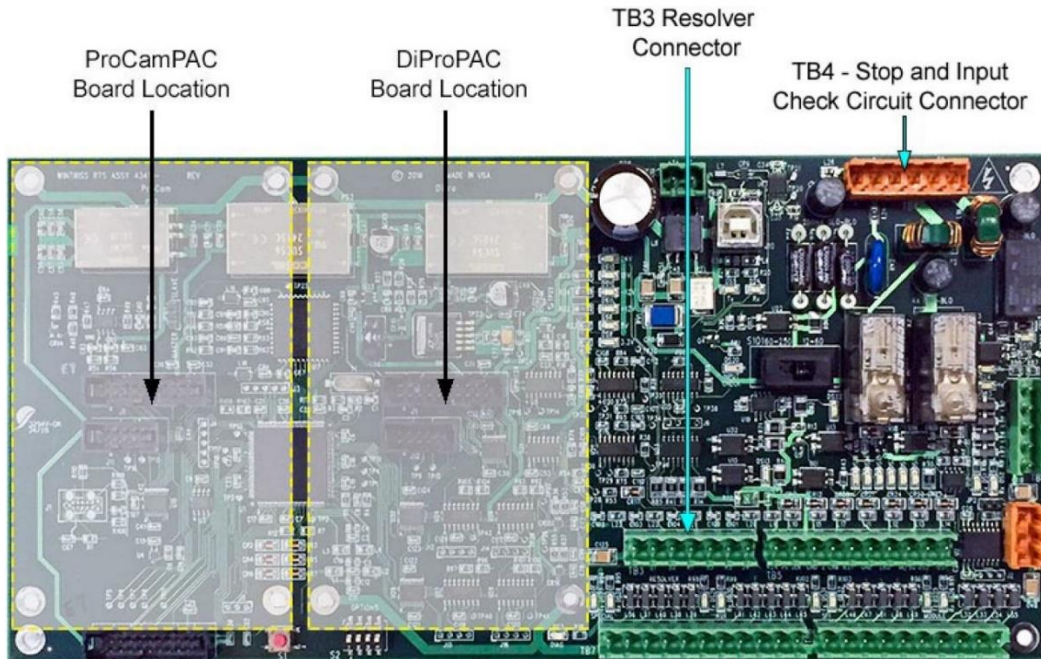

Figure 2-11. SmartPAC PRO Main (RTS) Board Showing Location of Option Module Boards, and TB3 and TB4
2. Locate connector TB4 on the SmartPAC PRO board (see Figure 2-11, page 32) and unplug it from its socket. Connect the wires for the stop and input check circuits to TB4 pin locations, as shown in Table 2-2 and wiring diagram Figure 4 at the end of the manual.
Install these boards in the locations shown in Figure 2-11, below. If you install a board in the wrong location, SmartPAC PRO will not recognize that the option is installed.
3. On the SmartPAC PRO board, locate the connector in which the new board should be installed (see Figure 2-11).